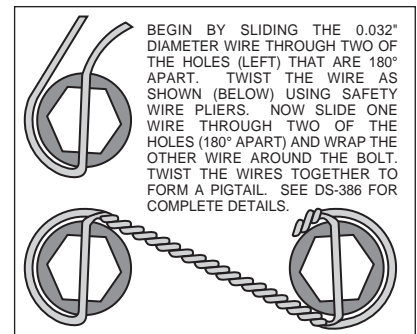

Figure 3. Safety Wire Diagram
- The axle bracket (1) and caliper mounting bracket assembly (2) should be installed first with clean, dry threads on the mounting bolts. Install the axle bracket (1) from the inboard side of the axle housing flange using the existing OEM bolts thread them into the four holes on the axle bracket (1). Next install the radial mount bracket (2) to the outboard side of the axle bracket (1) by sliding bolt (3) through washer (4), through the bracket (1) and place a shim washer (16) between the axle bracket (1) and radial mount bracket (2). The radial mount bracket (2) must tighten squarely against the outboard side of the axle bracket (1). Inspect for interference from casting irregularities, machining ridges, burrs, etc. Use one shim (16) between the axle bracket (1) and radial mount bracket (2) during initial trial fitting.
- With the larger I.D. side of the rotor (6) facing away from the hat (7), bolt rotor (6) to hat (7) through the backside of the rotor using washers (8) and bolts (9). Using an alternating sequence, apply red *Loctite*® 271 to the threads and torque bolts to 155 **in-lb**. For an added measure of security, the bolts may be safety wired using standard 0.032 inch diameter stainless steel safety wire as shown in Figure 3. Please refer to Wilwood's data sheet DS-386 (available at www.wilwood.com/Pdf/DataSheets/ds386.pdf) for complete safety wire installation instructions.
- **NOTE:** To ensure proper clearance it is necessary to remove the torsion spring from the back side of the caliper. Caution should be used when handling springs. A compression spring (17) will be installed when installing the parking brake cable (see page 5).
- Slide the brake pads (15) up into the caliper (10) from the bottom until the "v" spring clip snaps into place against the anvil. They should install easily without interference.
- Lubricate caliper mounting studs and nuts with lightweight oil. Install two shims (14) over each stud (13) on the radial mount bracket (2). Slide the caliper (10) in place over the studs and rotor and install the washer (12) and lock nut (11) to hold the caliper in place. The caliper bleed screw should be pointing toward the rear of the vehicle. Snug the lock nuts (11) and check that the caliper (10) is centered over the rotor (6). Add or subtract .016" shims (5) and/or .035" shims (16) as necessary between the axle bracket (1) and the radial mount bracket (2) to center the caliper (10) on the rotor (6).
- Check that the outside radius of the brake pad (15) is aligned with the outside diameter radius of the rotor face. Add or subtract shims (14) between the caliper (10) and radial mount bracket (2) to gain the proper alignment.